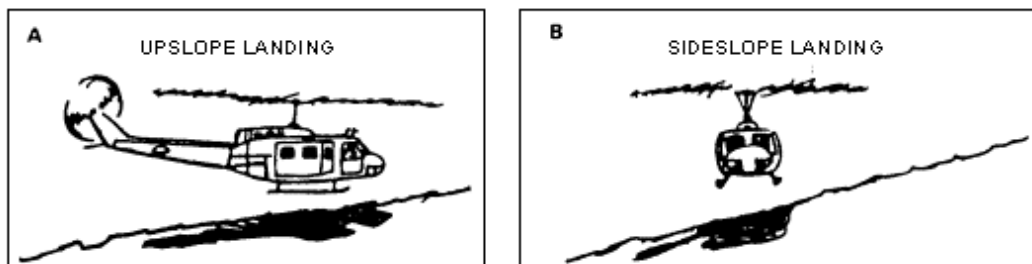

Figure 3-45
- b. The ground slope of the landing site (Figure 3-45). When selecting the landing site, the ground slope must be no more than 15 degrees. Helicopters cannot safely land on a slope of more than 15 degrees.